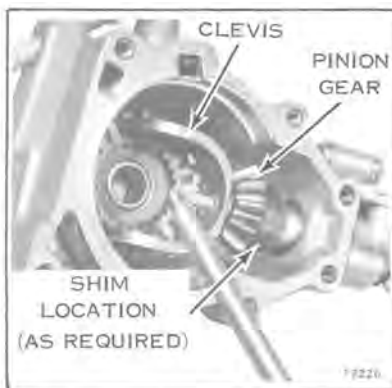

Figure 10-26
- h. Remove hex head socket screw from pinion gear shaft. See Figure 10-26. The shifter clevis, pinion gear, pinion bearing, thrust washers, thrust bearing and shims, if studded, can be removed.
- c. Install output shaft, output gear and retaining ring. Install bearing in transmission case, using Loctite bearing mount on O.D. and I.D. Mount transmission to chain case. Gear backlash measured by placing a feeler gauge between pinion gear and thrust washer. Gear backlash should be .004" - .006" when the pinion gear shaft retaining ring is held against the outside of pedestal housing. This may be adjusted by means of shims installed on the pinion shaft and these are available in .002", .003", .004", .005" thousandths. See Figure 10-26.